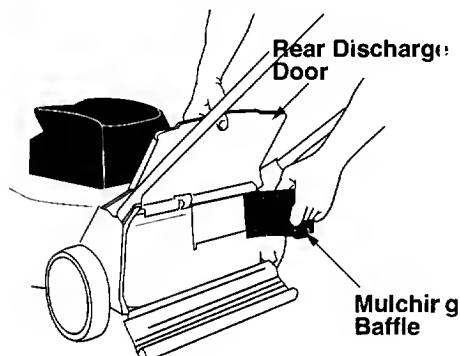

Figure 5
- To remove the mulching baffle, lift the rear discharge door and pull the baffle out. See figure 5.